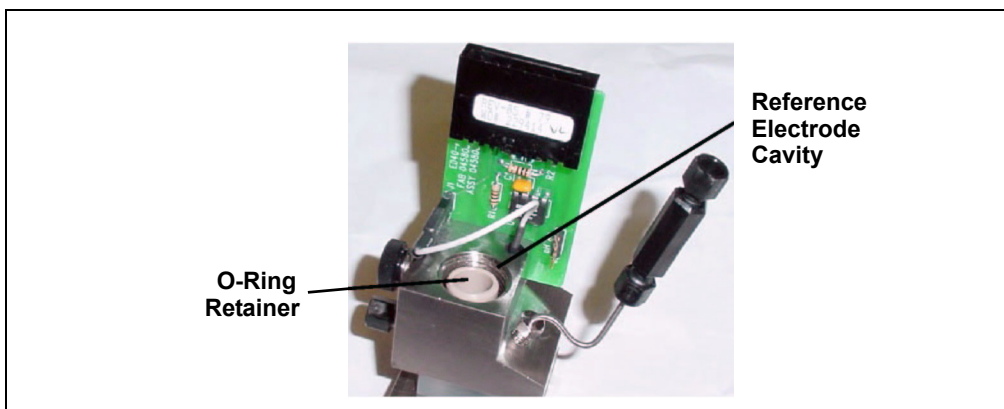

Figure B-6. Reference Electrode Cavity with O-Ring Retainer
1. Remove the O-ring retainer from the reference electrode cavity (see Figure B-6).